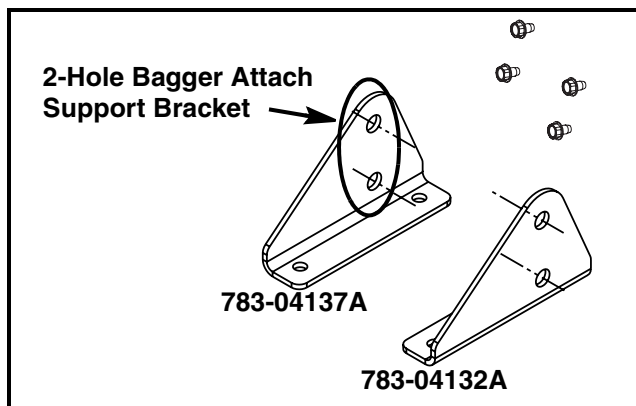

FIGURE 2
2. The 2-hole bagger attach support brackets (see Figure 2) that may have come with the Twin Grass Bagger Attachment package may be used to install the grass bagger on the 700 Series lawn tractors. Use this service kit in lieu of the 2-hole brackets and for Twin Grass Bagger Attachments that did not come with the 2-hole brackets.
6. At the rear of the tractor, if the brackets shown in Figure 2 are already installed on the tractor, remove and discard them and the 4 securing screws.